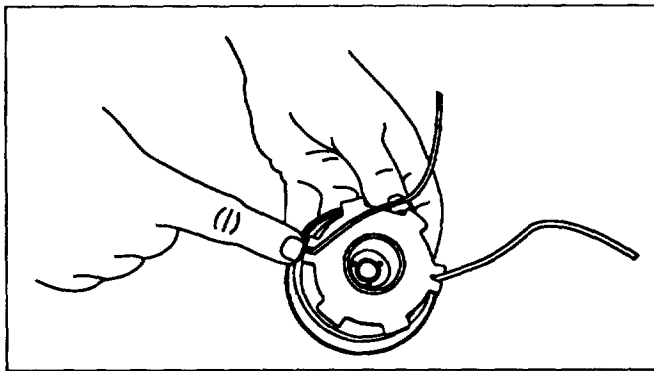

Fig. 18
3. Insert the ends of the line into the two holding slots (Fig. 18).